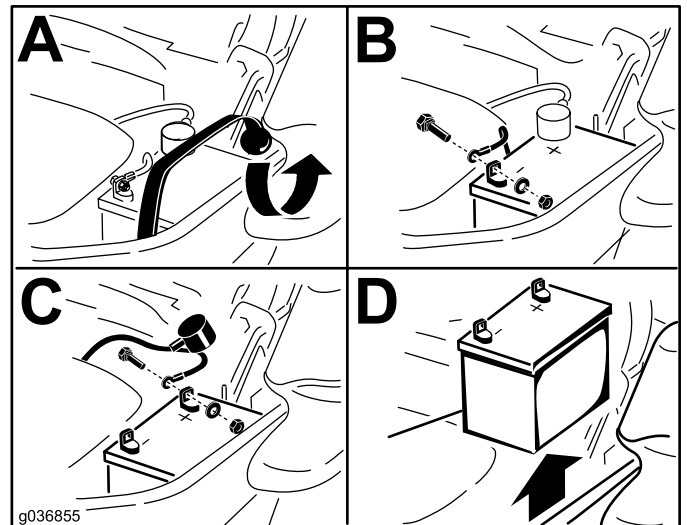

Figure 53
3. Disconnect the negative battery cable (black) from the negative (-) battery terminal (Figure 53).
4. Slide the red terminal boot off the positive (red) battery terminal, and remove the positive (+) battery cable (Figure 53).
5. Remove the rubber strap (Figure 53).
1. Position the battery in the tray with the terminal posts opposite from the hydraulic tank (Figure 53).
4. Secure the cables with 2 bolts, 2 washers, and 2 locknuts (Figure 53).
6. Secure the battery with the rubber strap (Figure 53).